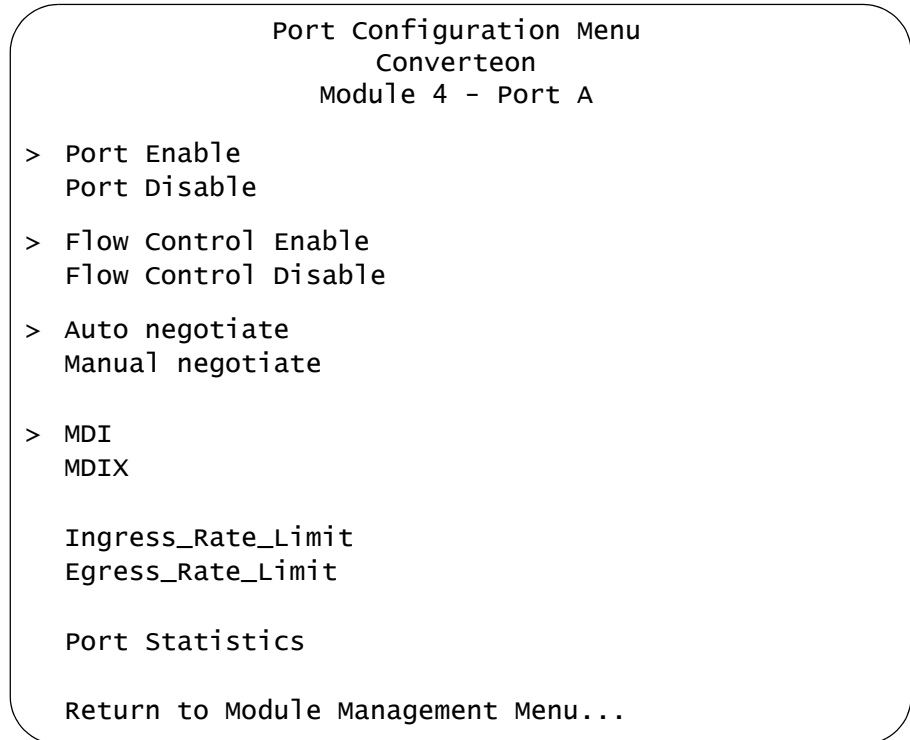

Figure 55. Port Configuration Menu
4. Select **Port Configurations**. The Port Configuration Menu for the selected port is displayed. The options in the menu will vary depending on the type of port and card. The example in Figure 55 is for a twisted pair port.